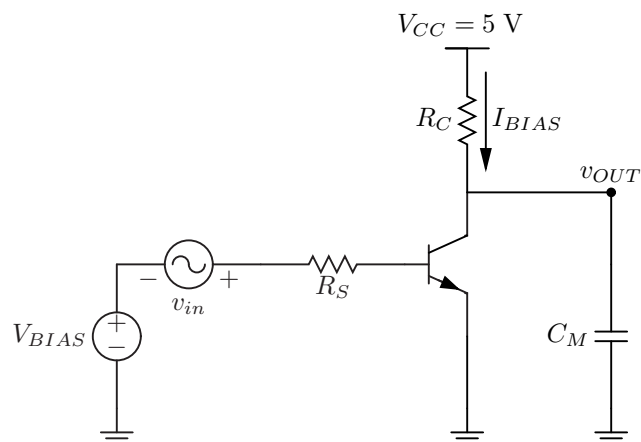

Figure 3: Output capacitance test setup
1. Let’s examine the impact of output capacitance on a common emitter amplifier. Take out the “Miller” capacitor C_M from Section 4.2, and place it at the output as shown in Figure 3.